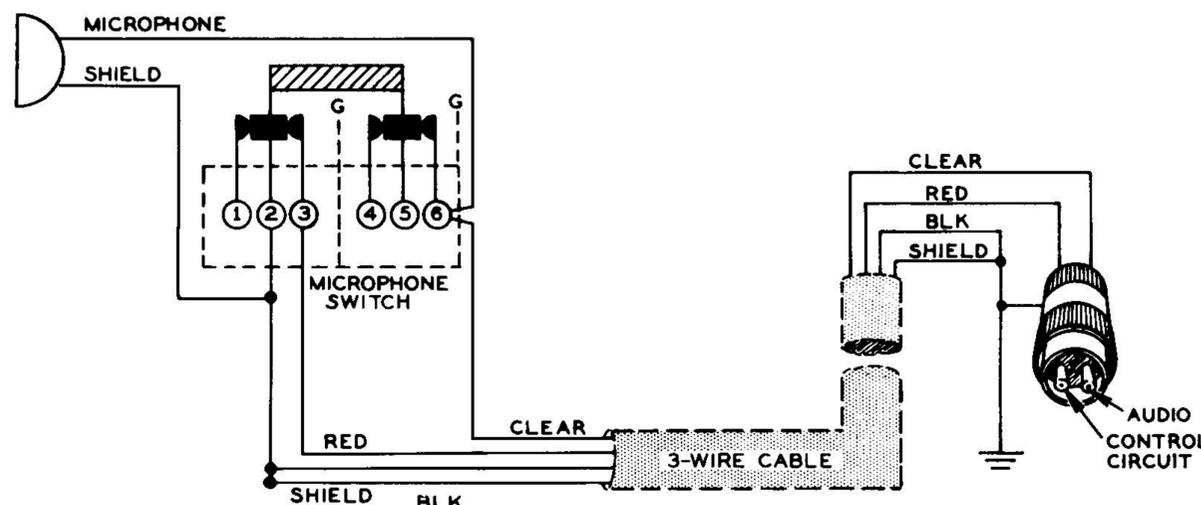

Figure 5
- () Connect the red wire to the control circuit pin of the cable connector as shown in Figure 5. Solder.
- () Connect the clear wire to the audio pin of the cable connector as shown in Figure 5. Solder.